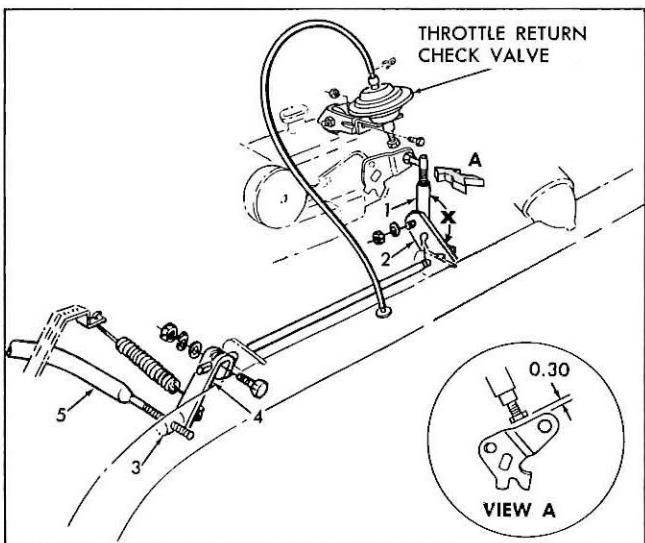

Fig. 5—Accelerator Linkage
### Accelerator Linkage Adjustment (Refer to Figure 5)
1. Disconnect accelerator rod swivel (3) from cross-shaft lever (4).
2. Check throttle lever to see that it is against idle speed screw, then check to see that linkage angle "X" is approximately  $126^\circ$  as shown in Figure 5. Adjust this angle by lengthening or shortening rod (1).
3. Measure clearance between throttle valve lever and return check valve bolt (fig. 5 & 6) using .030" wire gauge on Tool Set J-21056.